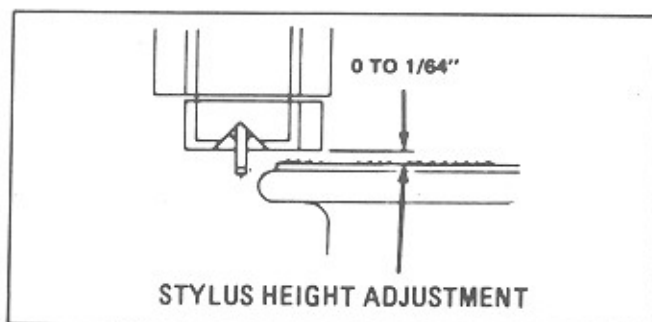

Figure 3-20. Stylus Height
2. Turn auto cancel screw until stylus holder is flush to 1/64 above turntable pad surface with tone arm in play position (See Figure 3-20.).